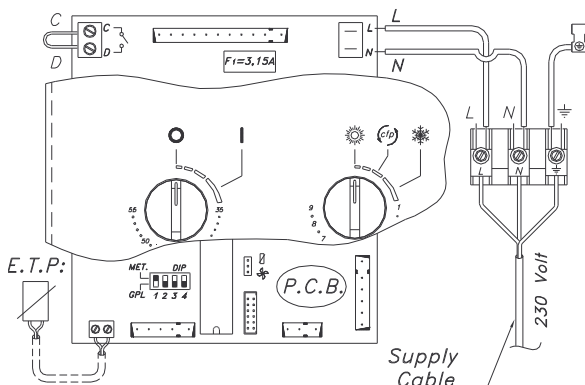

Fig.24
- **External temperature probe (E.T.P.)**; kit Cod.20589; installation of this kit is compatible with all fittings Fig.24 to Fig.29.